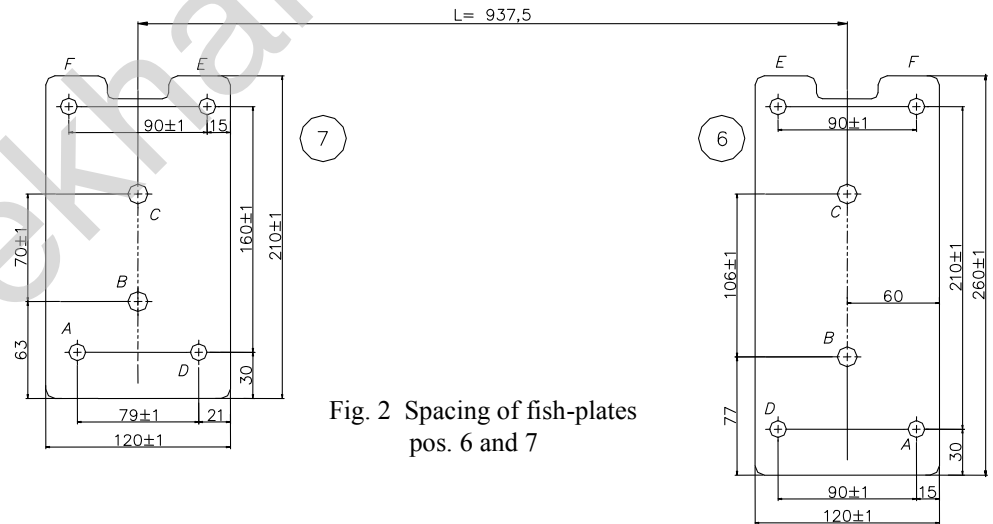

Fig. 2 Spacing of fish-plates pos. 6 and 7
3. Inside trunk, on the left and right side put fish-plates 6 and 7 (see figure 2). Next fix it through hole pos. A using bolts M8x30mm (pos. 13) in points originally threaded (remove plastic plugs).
4. Arrange fish-plates in accordance to dimensions from figure 2. Next mark points of rest holes. Then drill marked points straight through: bit $\varnothing 12,5\text{mm}$ holes pos. B and C, bit $\varnothing 8,5\text{mm}$ holes pos. D, E and F.
5. Disassemble both fish-plates. Made holes pos. B and C enlarge from trunk side using bit $\varnothing 25,5\text{mm}$; to enlarged holes put distance sleeves L=62mm (pos. 8).
6. Reassemble fish-plates again and in holes pos. B and C put bolts M12x100mm (pos. 10) and in rest of holes put bolts M8x35mm (pos. 13). Bolts M8 fix to the floor using big washers $\varnothing 25 \times \varnothing 9 \times 2\text{mm}$ (pos. 16) and spring washers.
7. Underneath the car put side brackets (pos. 4 and 5) on bolts M12 protruding from the trunk and fix it loosely.
9. Fix handle of the muffler through hole pos. H using bolt M8x60mm (pos. 12), use distance sleeve L=30mm (pos. 9).
10. Between assembled brackets (pos. 4 and 5) put main bar of the towing hitch (pos. 1) and fix it using bolts M12x35mm (pos. 11).
11. Fix body of the automat and place tow-ball according to supplied instruction. Note! Remember to place socket plate (pos. 3) as shown on the drawing 1.